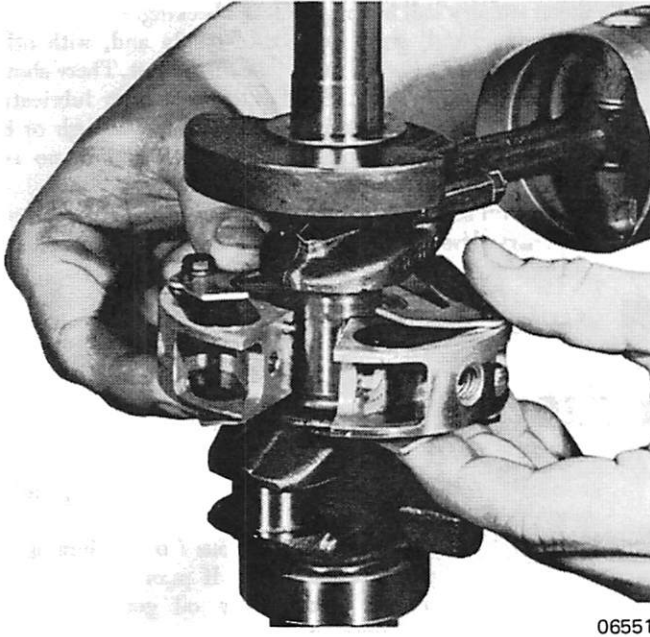

Figure 1. Installing Reed Cage
3. Install reed cage on crankshaft. (Figure 1) Tighten 2 integral screws securely on reed cage to assure tight fit.